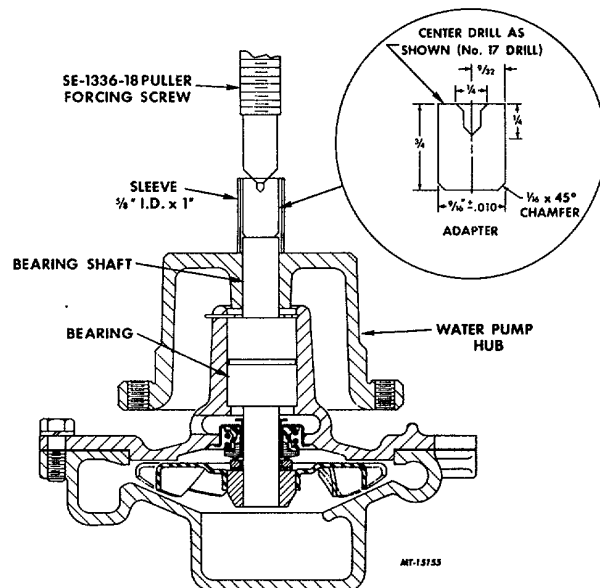

Fig. 129 Using puller SE-1336-18, Adapter and Sleeve, Remove Pulley Hub
1. Using puller SE-1336-18 remove pulley hub from shaft, Fig. 129.
Make adapter and sleeve locally from dimension shown in fig. 129.